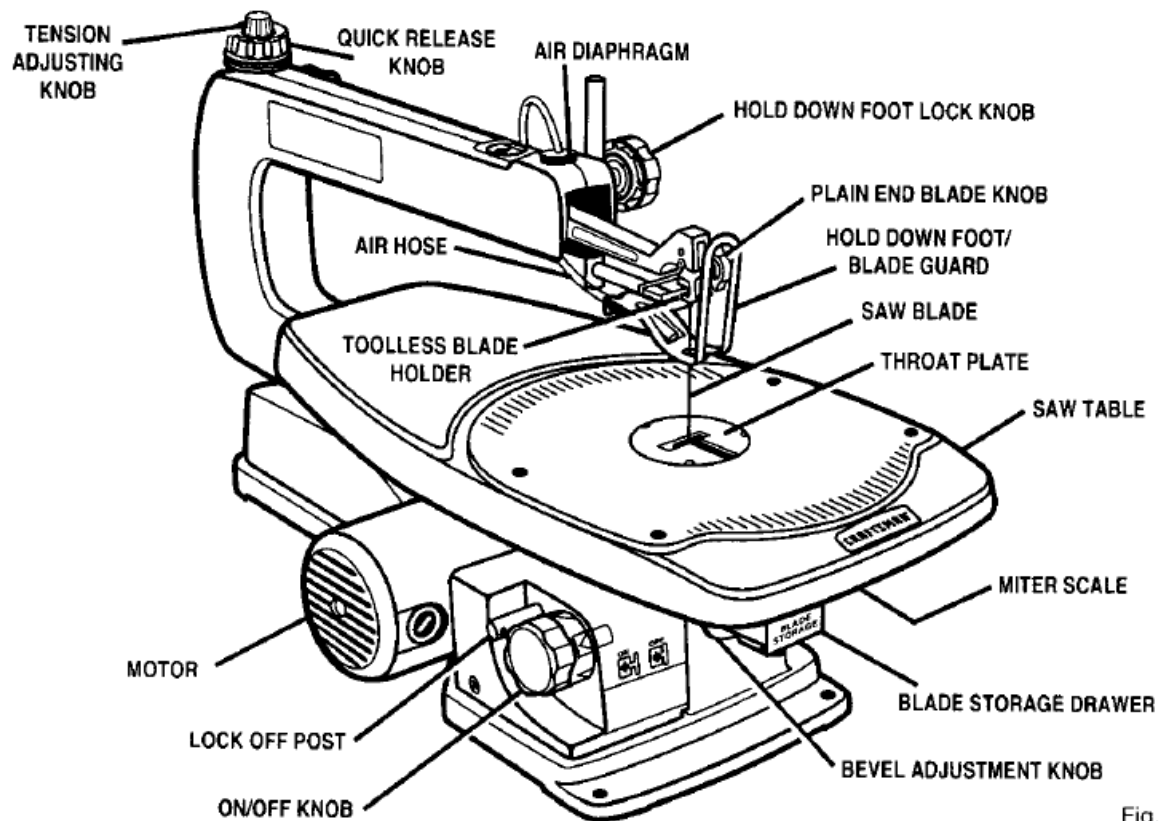

Fig. 5
- Before attempting to use your saw, familiarize yourself with all operating features and safety requirements of your Sears Craftsman scroll saw. See Figure 5.
- On the top back of the saw, rotate the quick-release knob to the left or counterclockwise to loosen blade tension. See Figure 5. Remove the throat plate.